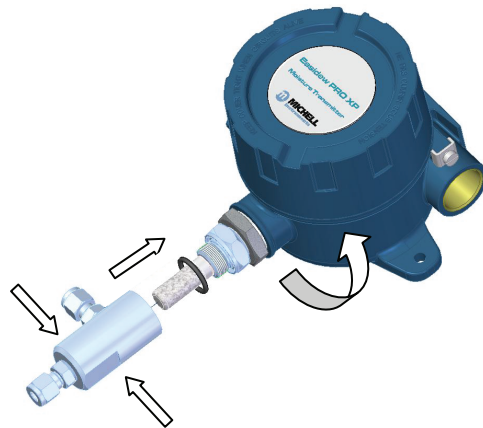

Figure 8 Transmitter Mounting - Sample Block
2. Ensure the O-ring (see *Figure 8*) is located correctly within the O-ring groove of the process connection and there is no contamination or debris on its exposed surfaces.